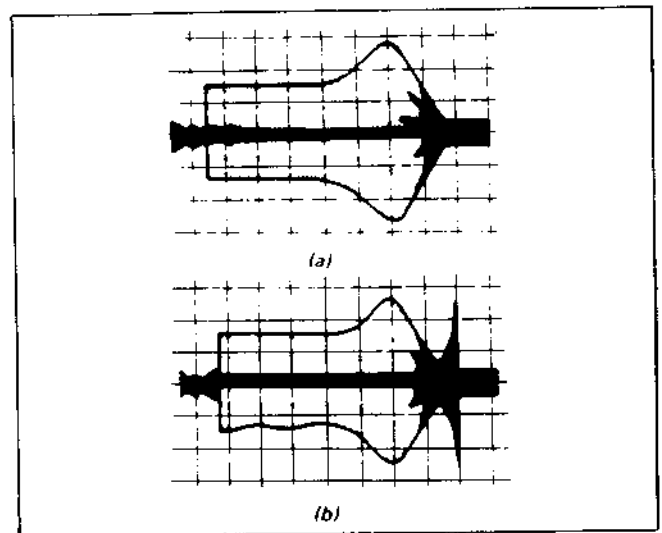

Fig. 4-11.
- 5) At this time, confirm that the exit free waveform is with the range shown in Fig. 4-11 (a) and (b).